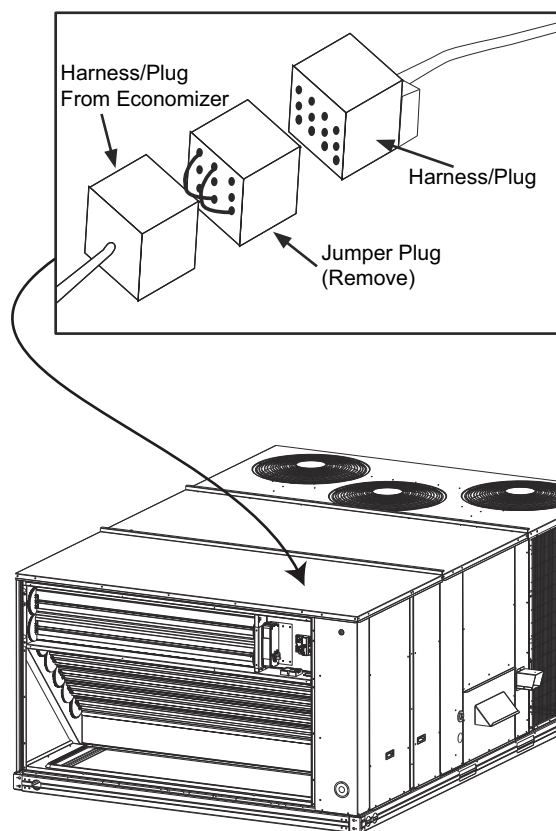

Fig. 7 — Unit Wiring Harness
8. Before the economizer is secured in place on the right hand side, remove and save the 12-pin jumper plug from the unit wiring harness. (See Fig. 7.) Insert the economizer plug into the unit wiring harness plug.